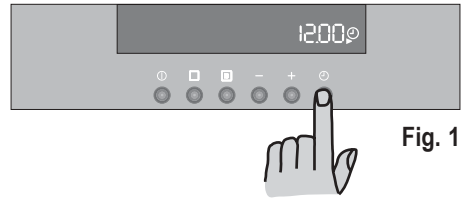

Fig. 1
1) press button  and, while the symbol  is flashing (Fig. 1), set the correct time of day by pressing buttons “-” or “+” (Fig. 2).